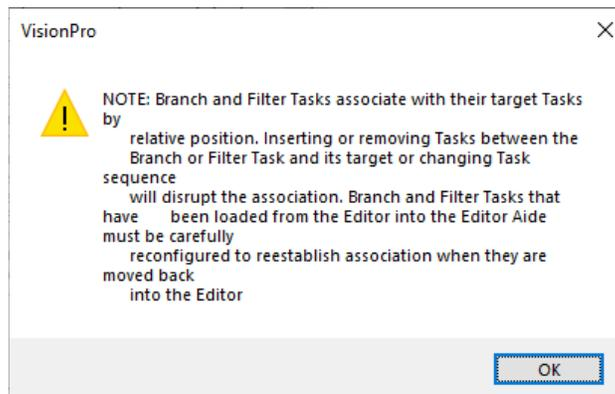

Figure 10 - Branch and Filter Task Reconfiguration Note.
- Collect/Plot Filter:** Review the Task configuration and plot configuration. Make any desired changes. For Filter Tasks, although they may appear properly configured, it is important to re-establish the dependency with the Filter Target Task(s) by validating the selection in *Task Selector* and clicking *Add Tasks*. This is noted specifically in the subdialog accessed by *Critical Note on Branch and Filter Tasks* (Figure 10).
- **Branch Task:** Review the Task configuration and plot configuration. Make any desired changes. For the Branch Task, although they may appear properly configured, it is important to re-establish the dependency with the Branch Target Task by validating the selection in *Task Selector* and clicking *Add Tasks*. This is noted specifically in the subdialog accessed by *Critical Note on Branch and Filter Tasks* (**Figure 10**).